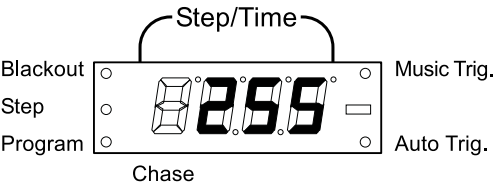

Fig.5 - Display example DMX value "255"
- 4. Compose a look by moving the **[FADERS]**. (Changes in fixture attribute such as colors and gobos) Press **[PAGE SELECT]** to access Channels 9~16 on the faders (fig.5).